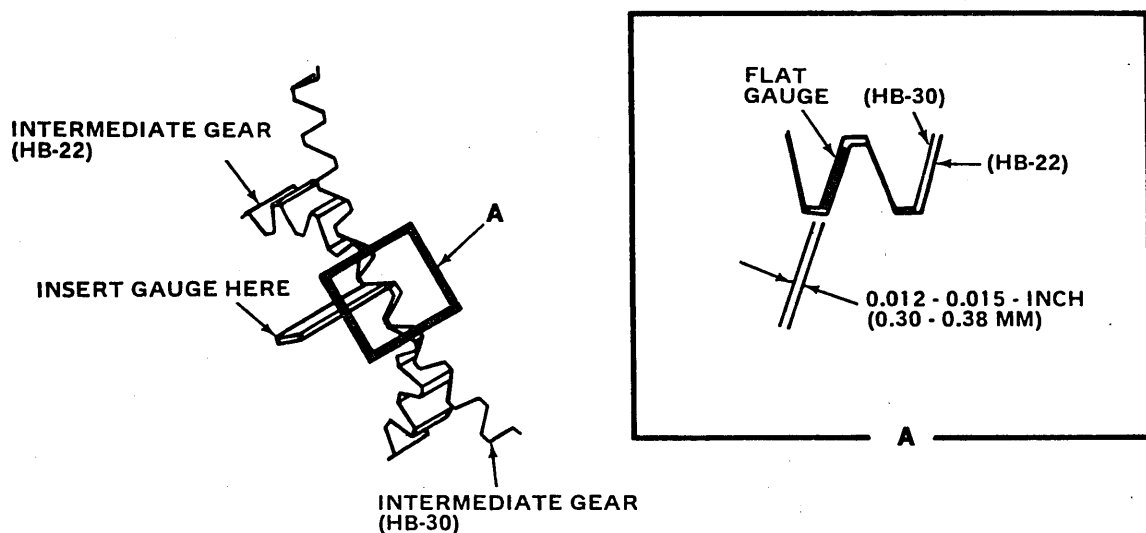

Figure 5-4. USE OF FEELER GAUGE FOR BACKLASH ADJUSTMENT, (HB-30, 22)
- c. Insert feeler gauge between the sides of two meshed gear teeth for a minimum gap of 0.012-inch through a maximum gap of 0.015-inch (0.30 to 0.38 mm max.). (See Fig. 5-4)